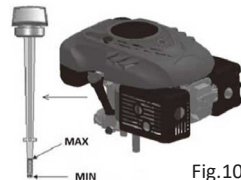

Fig.10
- The drain plug is located under the engine (Fig. 10 - item 1).
- Place a suitable container under the engine to collect the used oil and remove the cap. Tilt the mower so that all the oil drains out of the oil tank. After draining the oil, replace the cap in the hole, making sure it is securely fastened, and wipe up any oil that has spilled (Fig. 10).
- Add SAE30 or 15W-40 oil to the oil container. When the oil level indicator is inserted into the hole and screwed in, the oil level should be between the Min and Max marks (Fig. 10). Do not overfill the container.